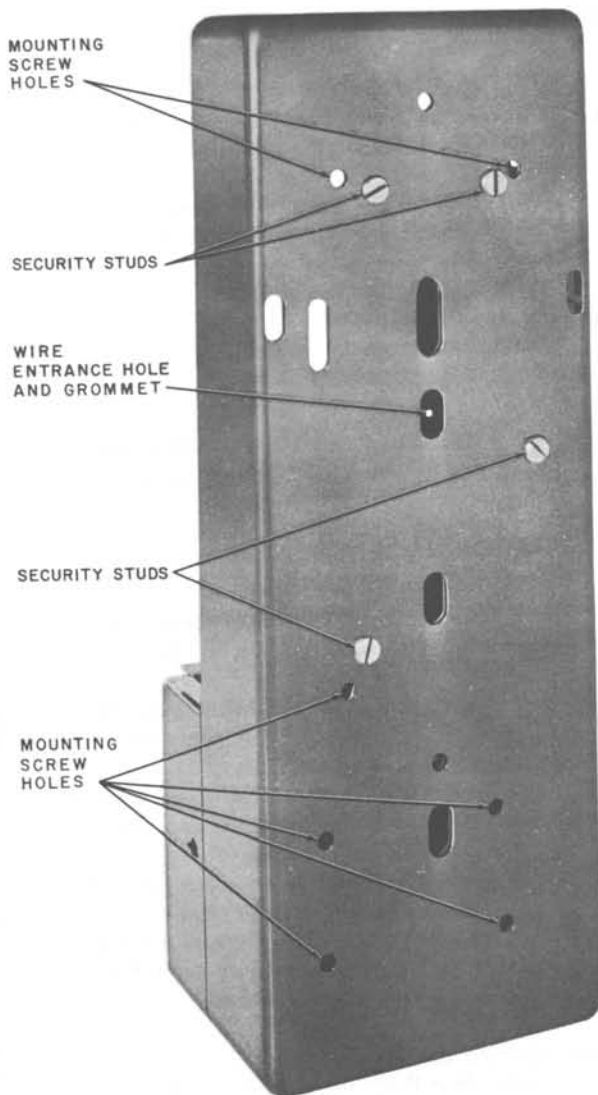

Fig. 1—Location of Mounting Screw Holes and Security Studs
- 3.05** Refer to Fig. 1 for mounting screw and security stud locations in the coin telephone.